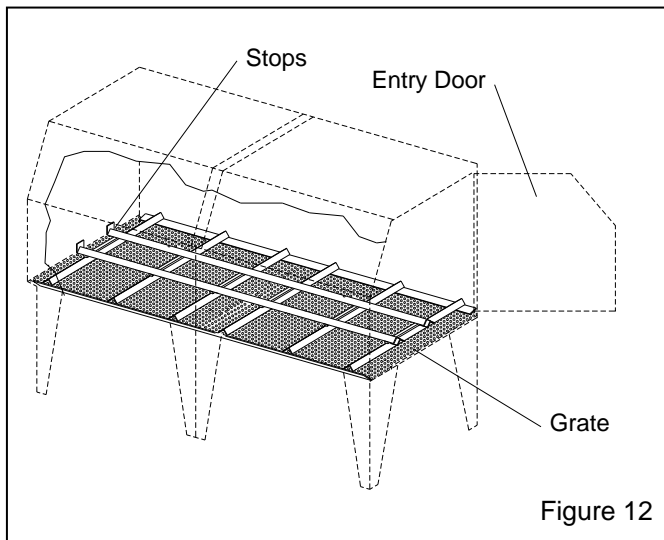

Figure 12
3.5.2 Place the inside track in the cabinet over the existing grate as shown in Figure 12.